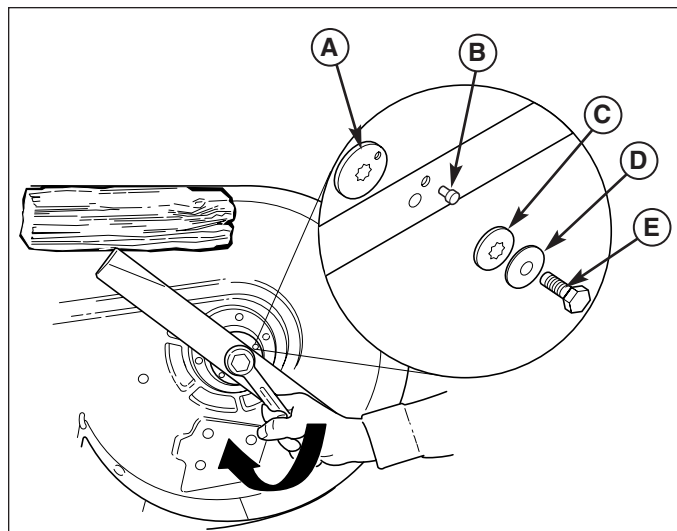
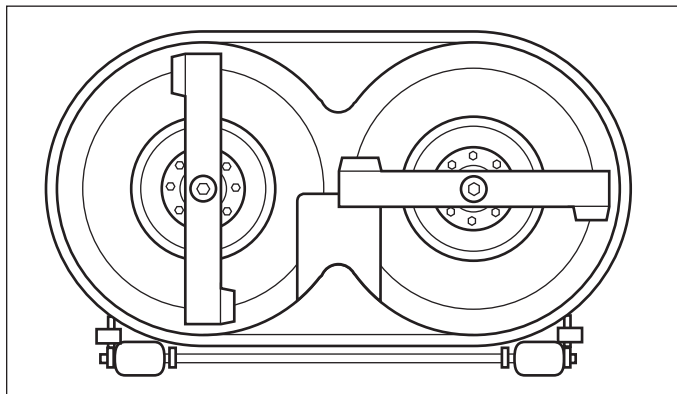

Figure 23. Installing The Blade
Figure 24. Blade Timing
4. Install the new blades with the lift tabs pointing up toward deck (Figure 24). Secure with a capscrew (E, Figure 23), spring washer (D), spline washer (C), and alignment pin (B) (be certain the spline washer is aligned with the shaft). Use a wooden block to prevent blade rotation and torque capscrews to 45-55 ft.lbs. (61-75 N.m.).
5. Check that the mower blades are timed perpendicular to each other (see Figure 24). If not, remove the blade and rotate the adapter (A, Figure 23).
2. Check that the mower blades are perpendicular to each other (Figure 24). If not, remove the blade and rotate the adapter (A, Figure 23) using the procedure outlined in Servicing the Mower Blades